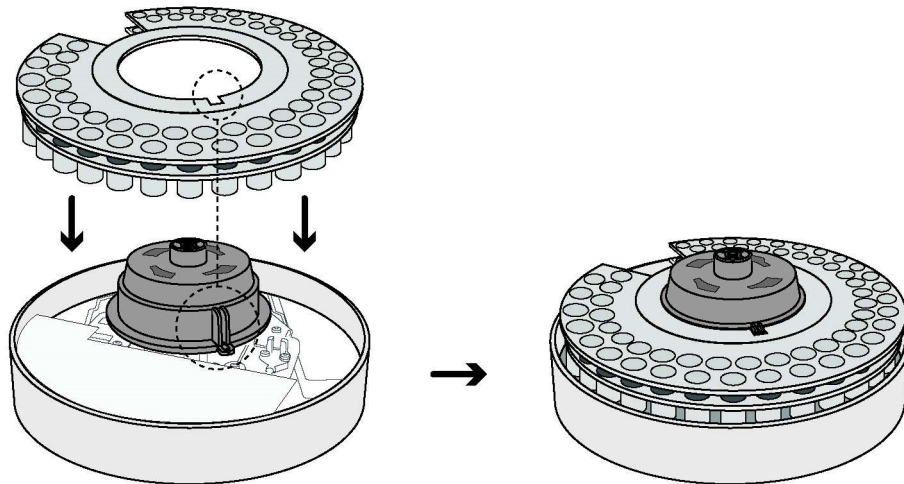

Figure 9 Place the turret onto the turret hub
- 2 Align the tabs on the turret hub with the notch on the inside of the turret, and place the turret onto the turret hub (Figure 9).